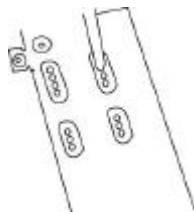

Figure 5
- 3.1) Mount the FDD on the 3rd (for hidden panel) hole of the 3.5" bracket. Screw in the HDD. (See Figure 5,6)